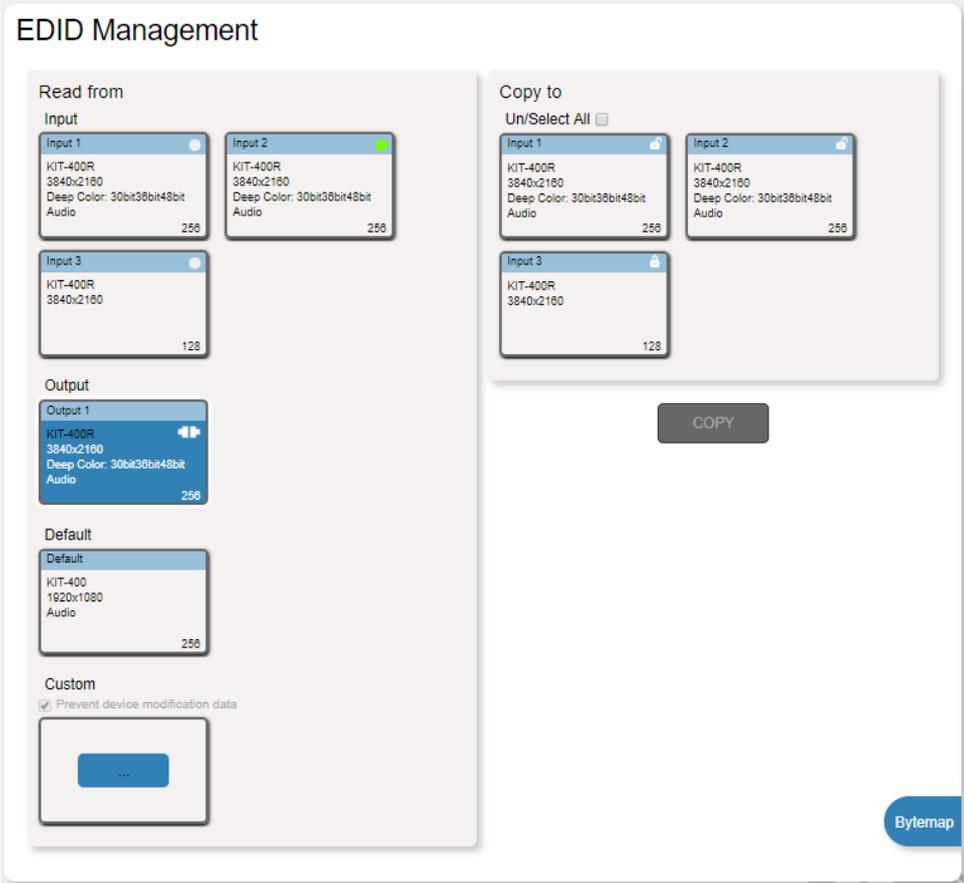

Figure 43: EDID Management Page
- 1. In the Navigation pane, click **EDID Management**. The EDID Management page appears (see Figure 43).
1. In the Navigation pane, click **EDID**. The EDID Management page appears (see Figure 43).